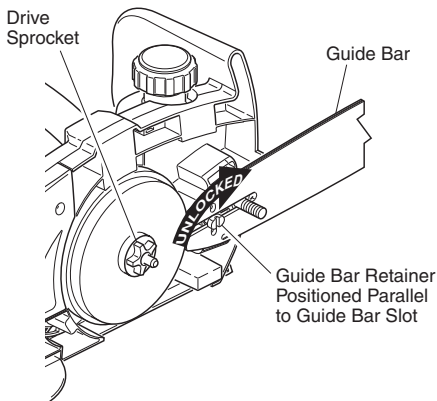

Figure 4 - Unlocking Guide Bar Retainer
3. Rotate guide bar retainer so that it is positioned parallel to guide bar slot (see Figure 4).
4. Install guide bar onto saw body. Assemble center slot of guide bar onto guide bar bolt and guide bar retainer. **Note:** Make sure the head of the guide bar retainer slides through the guide bar slot as shown in Figure 4.